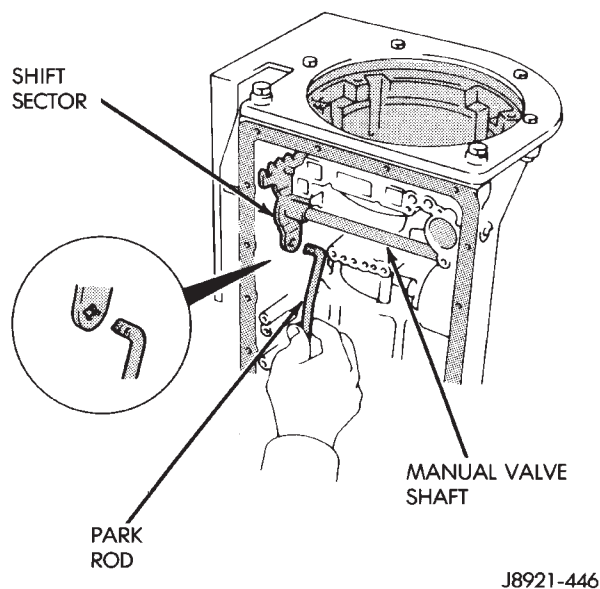
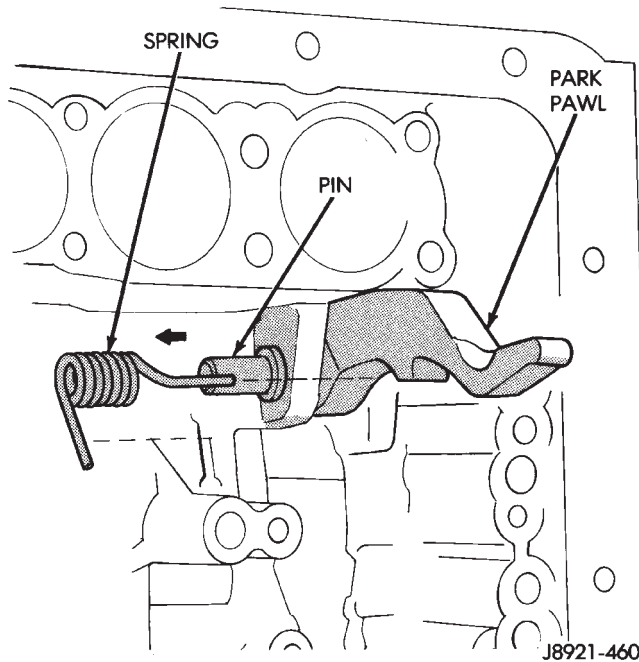

Fig. 34 Removing/Installing Park Rod
Fig. 35 Removing/Installing Park Pawl, Pin And Spring
- (3) Remove park rod from manual valve shaft sector (Fig. 34).
- (4) Remove park rod.
- (5) Remove park pawl, pin and spring (Fig. 35).
- (6) Examine park rod, pawl, pin and spring. Replace any component that is worn or damaged.
- (7) Install pawl in case. Insert pin and install spring. Be sure spring is positioned as shown in Figure 35.